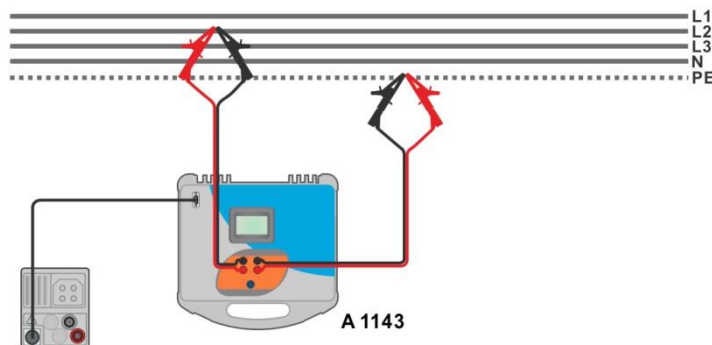
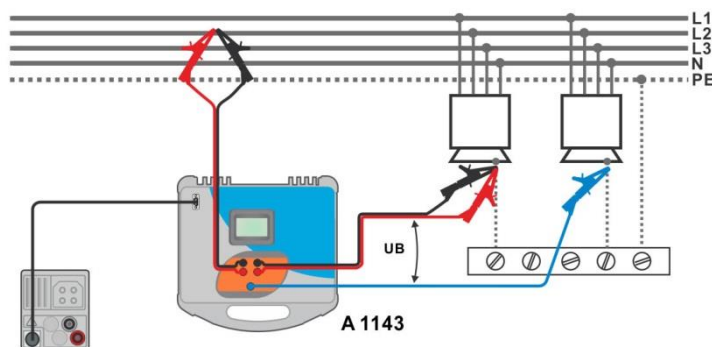

Figure 7.43: High precision Loop impedance measurement – Connection of A 1143
Figure 7.44: Contact voltage measurement – Connection of A 1143
- › Connect test leads to the object under test, see **Figure 7.43** and **Figure 7.44**.